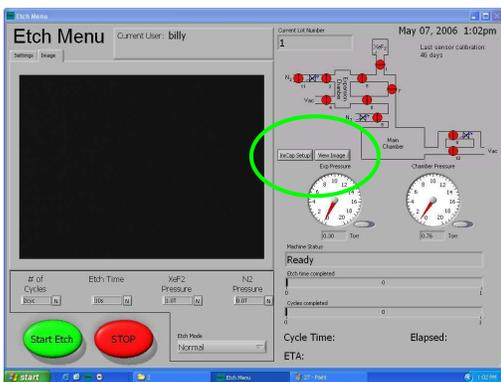
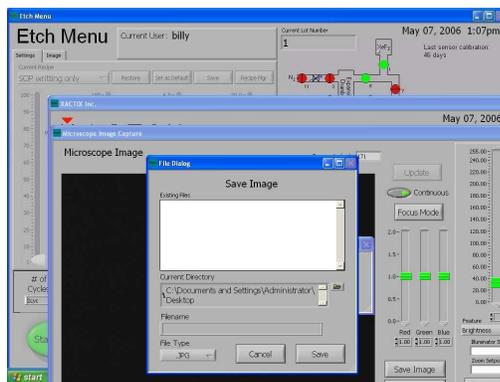

Figure 2.19
Figure 2.20
- Click on the “**ImCap Setup**” and “**View Image**” (Figure 2.19) to adjust the image quality and image capture properties (Figure 2.20).